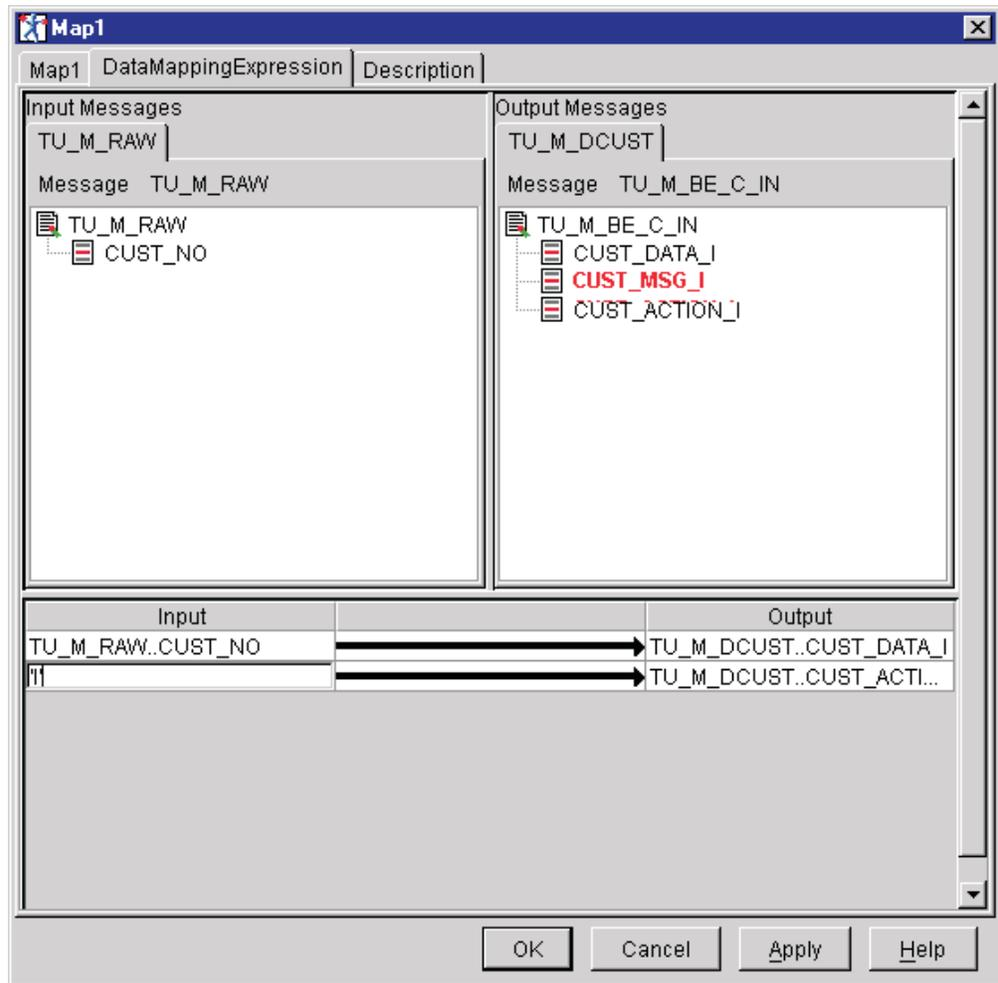

Figure 67. Mapping for Map1 node
- 1) Perform the mapping for the Map1 node as listed in Table 30 and shown in Figure 67 on page 98. This map passes the customer number and inquire action indicator 'I' to the MQ program DFHMABP6.
Left click on the CUST\_NO field under the TU\_M\_RAW message (view input message on right of panel) and drag the mouse cursor to the CUST\_DATA\_I field under the TU\_M\_BE\_C\_IN message (view output message on left of panel). This will create a mapping between the two fields (see Table 30 and Figure 67 on page 98).